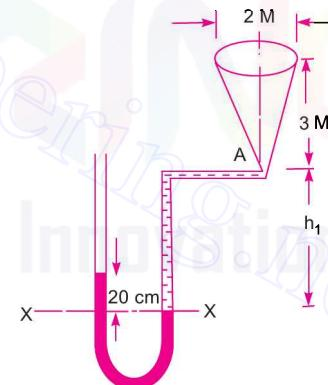

Fig. 2.12
**Problem 2.12** Fig. 2.12 shows a conical vessel having its outlet at  $A$  to which a U-tube manometer is connected. The reading of the manometer given in the figure shows when the vessel is empty. Find the reading of the manometer when the vessel is completely filled with water.